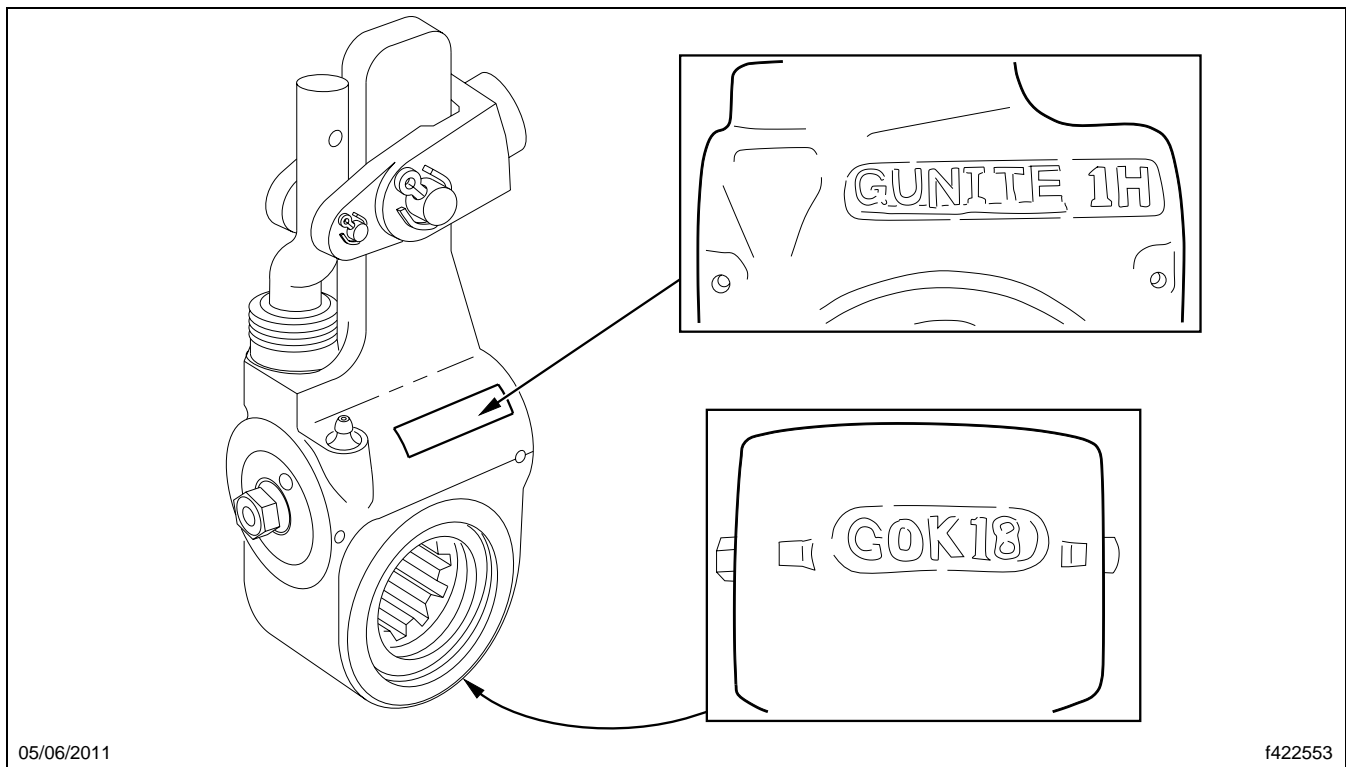

Fig. 1, Slack Adjuster Lot Number and Mold Line Nomenclature Identification
3. Inspect all of the automatic slack adjusters in two locations to determine the mold line information and lot number. See **Fig. 1**.